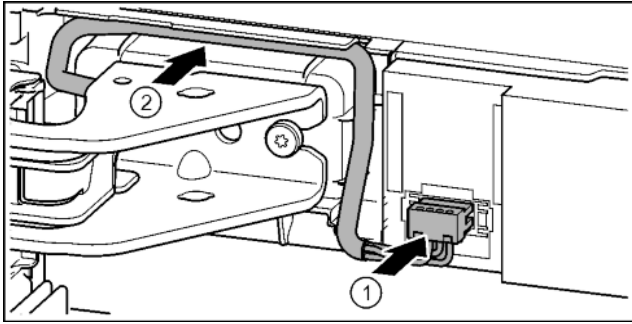

Fig. 34
- ▶ Click the connector into place above the upper mounting block and carefully place the cable strands into the channel. Fig. 34 (1)
- ▶ Carefully position the grey cable in the guide above the top bearing bracket. Fig. 34 (2)